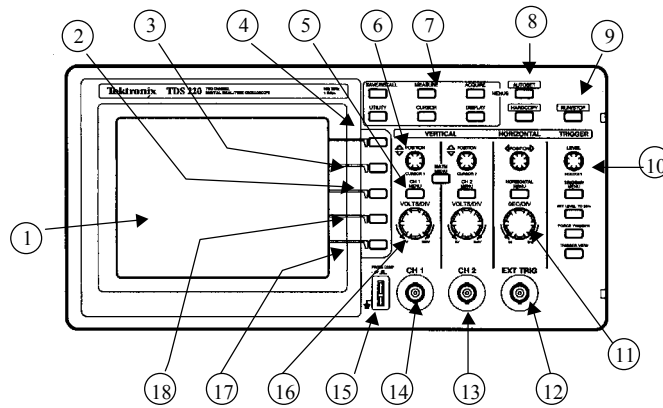

Figure 2.3.5: Tektronix Oscilloscope.
5. The Oscilloscope. The Tektronix TDS 210 (cost \$1100) is a two channel digital real-time oscilloscope. The front panel is shown in Figure 2.3.5 below, and with its array of buttons, switches and functions, it's somewhat intimidating. However, this is one of the most useful tools in electronics, and we suggest that you work through the inevitable frustration and force yourselves to use with this device as often as possible, because the hassles of thoroughly learning this tool now will pay dividends in the future.